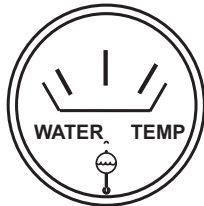

Figure 46. Coolant Temperature Gauge
14. The coolant temperature gauge (Figure 46) will indicate the coolant temperature. Under normal operating conditions the coolant temperature should be between 165 and 215 degrees Fahrenheit (Green Zone).